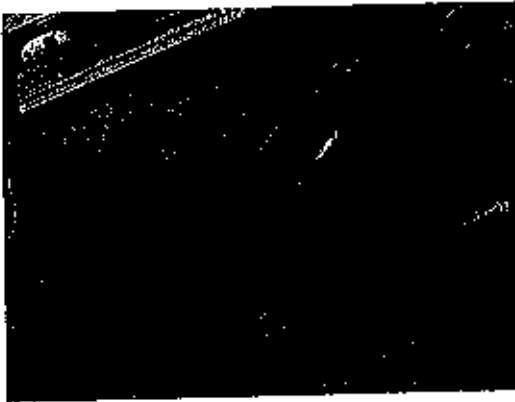
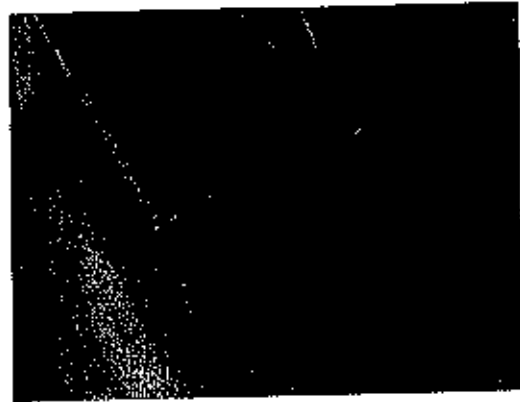

Figure 32
Figure 33
- From the cot foot end, press the red (lock) side of the foot pedal as shown in Figure 32 or from the cot head end, press down on either red pedal as shown in Figure 33.